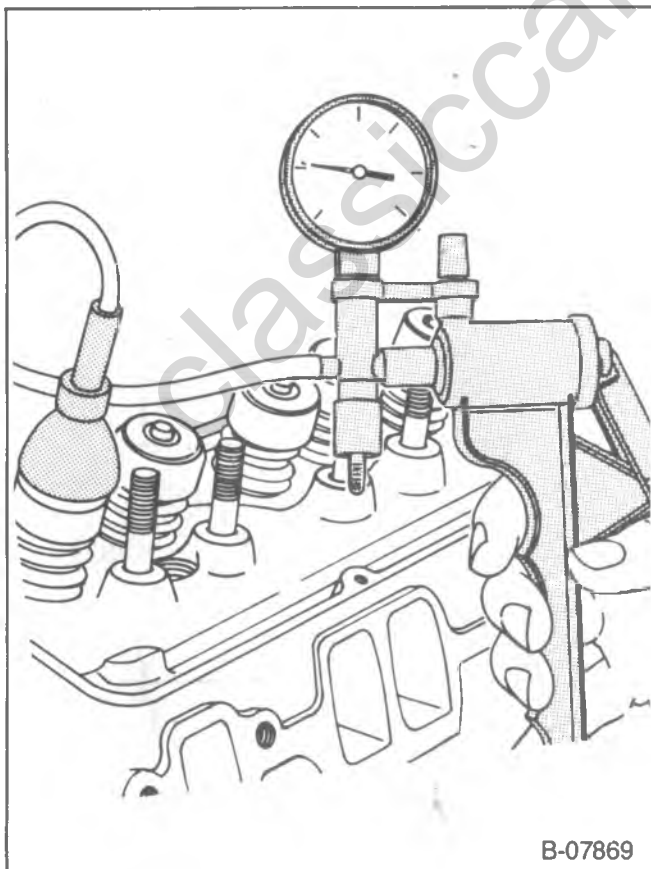

Figure 7—Testing the Valve Seals
- Check each O-ring seal for leakage (figure 7).